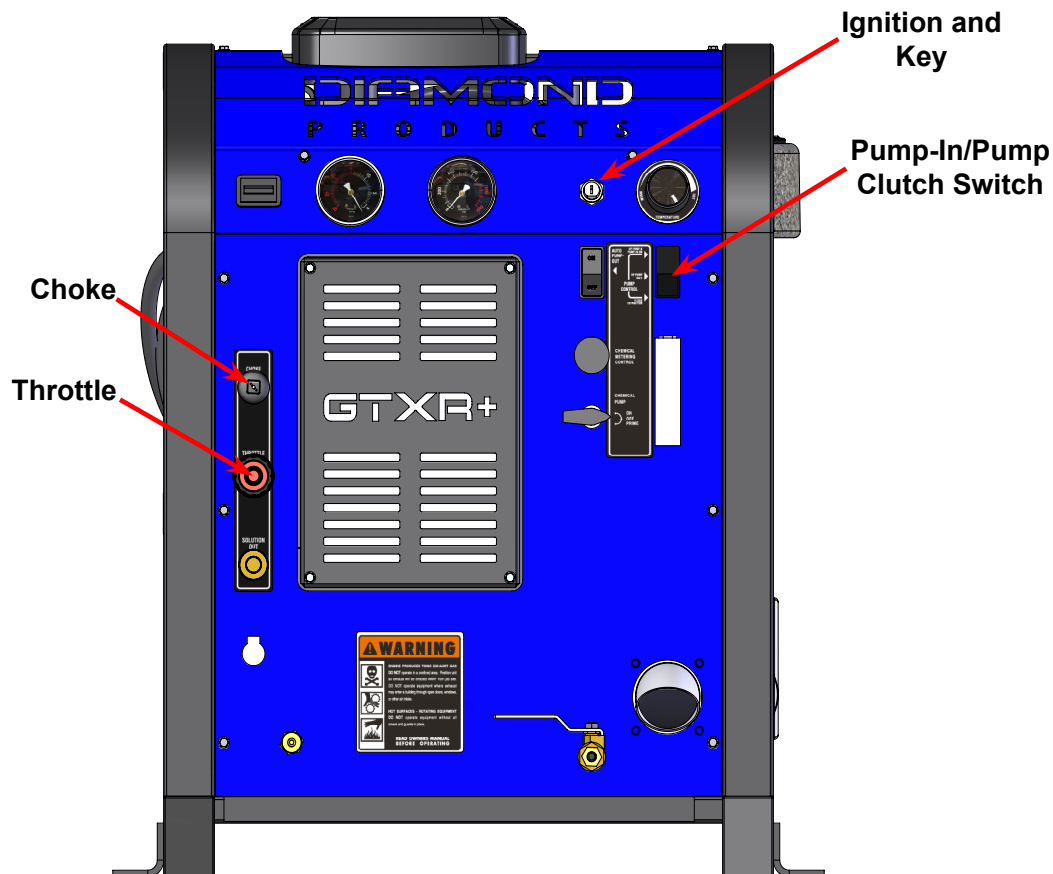

Figure 2. Location of Throttle, Choke and Pump-In/Pump Clutch Switch
2. Connect a garden hose to supply water to the truckmount. If used, turn the "PUMP-IN" switch to the "ON" position (see Figure 2).
4. Turn the key to "ON". Pull the choke and start the truckmount with the throttle cable fully depressed ("IDLE" position - see Figure 2)